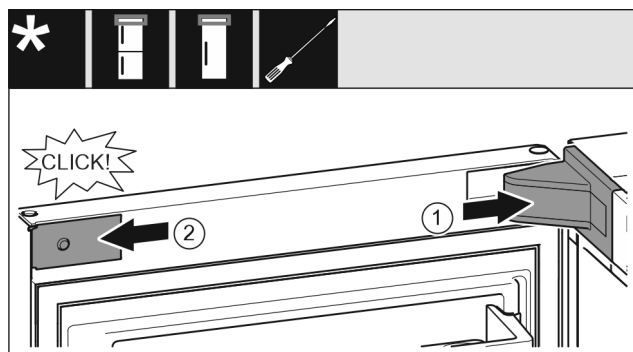

Fig. 26
- Put the swap bearing block cover Fig. 26 (1) on and engage, push apart carefully if required.
- Place the trim Fig. 26 (2) on the side and engage.